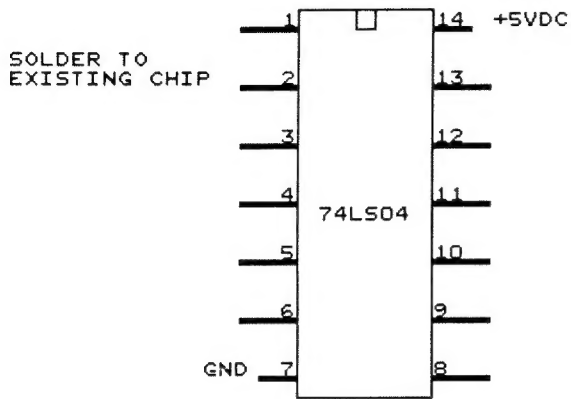

FIG. 1
**CURE 1:** Install a simple one I.C. Circuit on your logic board. This I.C. may be "piggy backed" on to another 7404 series chip for power by bending up all but the two power pins so that they are parallel to the top surface of the new I.C. and then connecting the power pins only to the existing chip. (See Fig. 1) Next connect the sync wires as shown in Fig. 2. (Note: Figure 2 shows a hookup for either **composite** or **separate syncs**.)